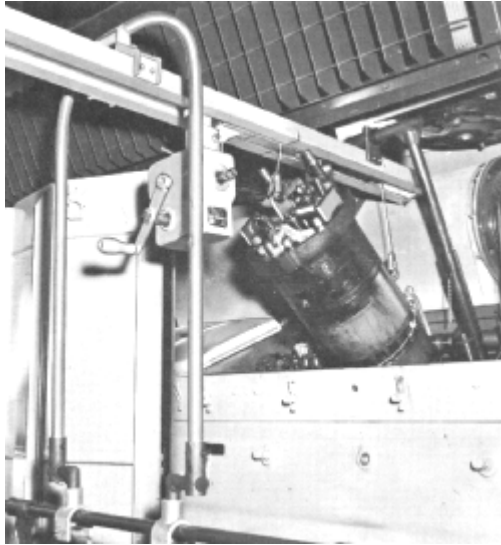
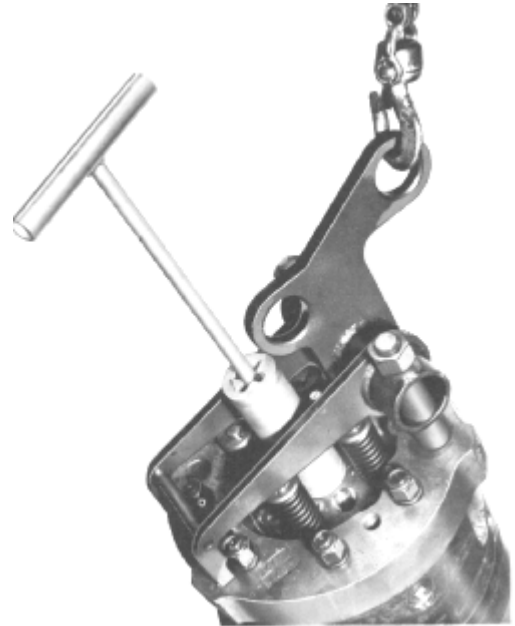

Fig. 5-12 - Power Assembly Hoist Set Application
Fig. 5-13 - Power Assembly Removal 22115 With Lifting Clamp And Hoist
NOTE: If the hoist set is used, Fig. 5-12, disregard the lifting clamp and piston holding tool.
NOTE: If a hoist set is used, Fig. 5-12, disregard the lifting clamp and piston holding tool.
42. Attach an overhead chain hoist to the lifting clamp, Fig. 5-13, or attach a hoist set, Fig. 5-12. While guiding the power assembly, remove it from the engine.